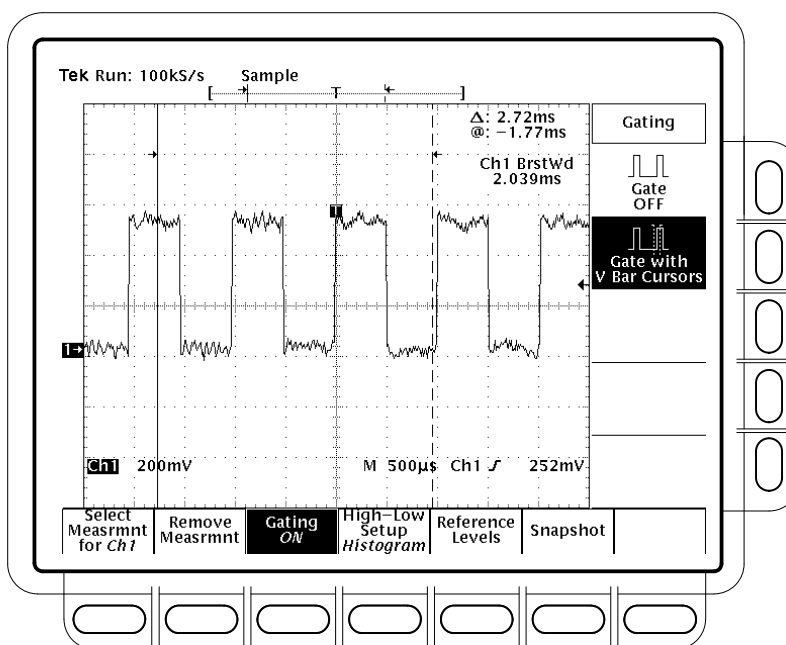

Figure 3-54: Measure Menu — Gating
1. Press **MEASURE** → **Gating** (main) → **Gate with V Bar Cursors** (side). (See Figure 3-54.)